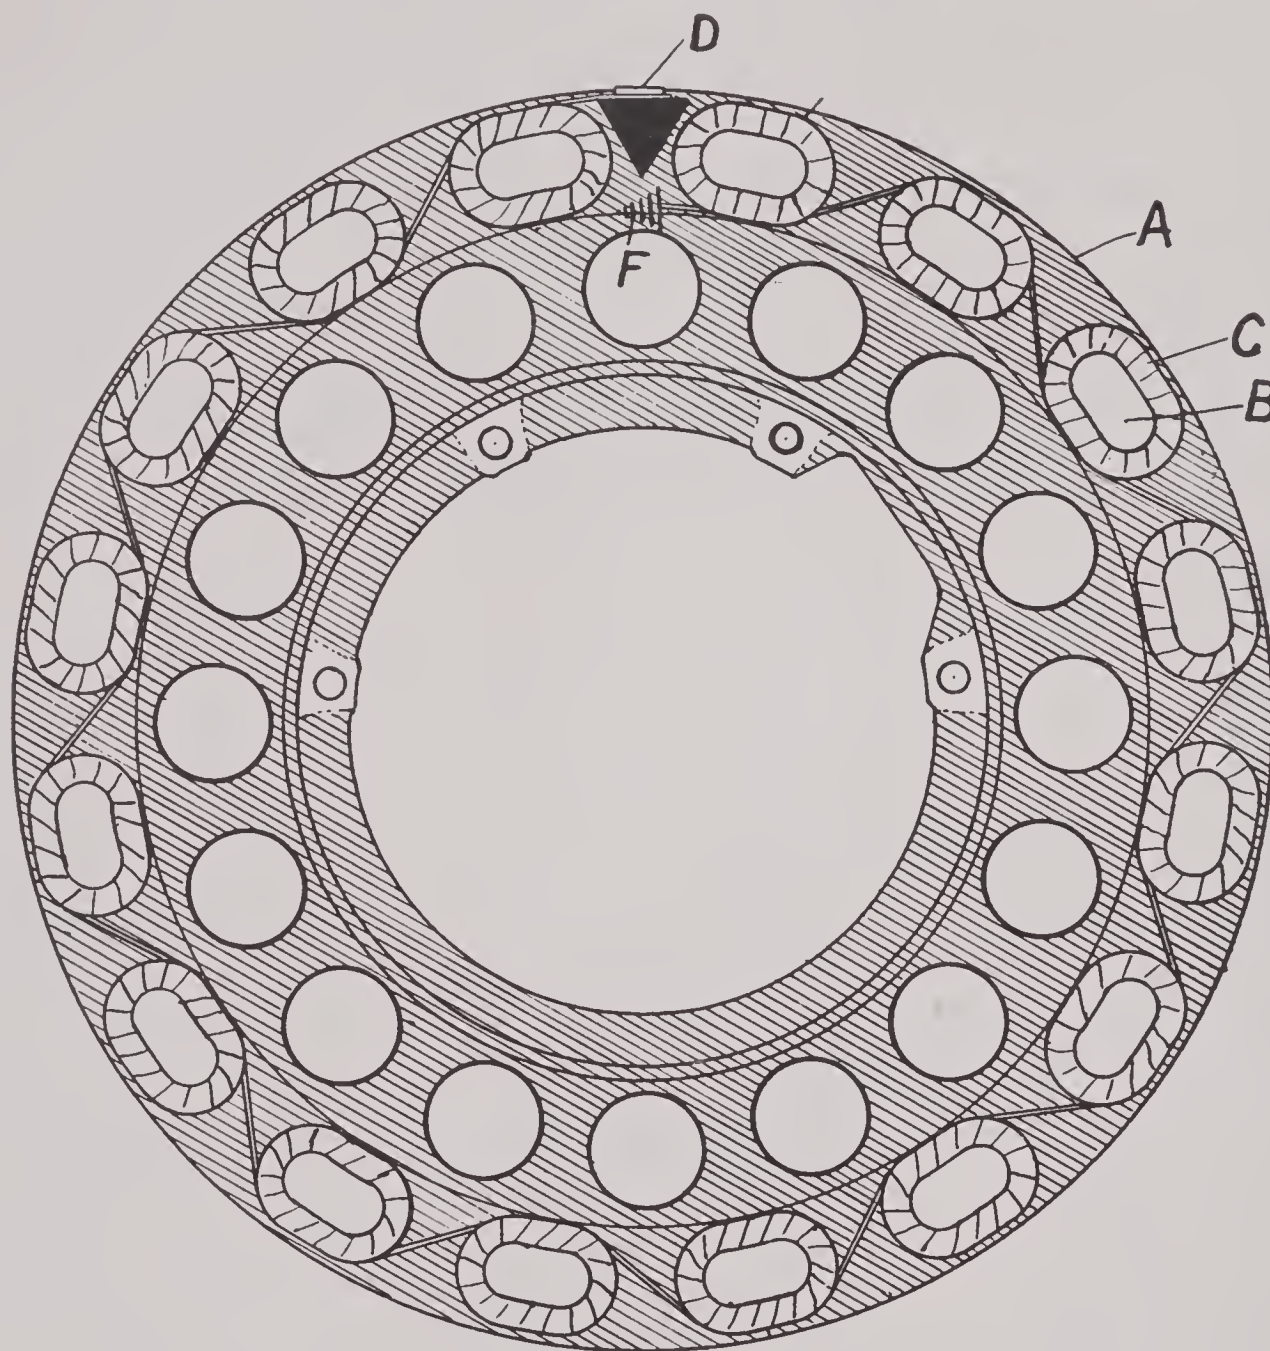

FIG. 268
Fig. 268 illustrates the arrangement of the coils, and the manner in which they are connected together. One end of the armature winding is grounded to the frame as shown at (F), the other end is carried on a small fibre block (D) to the top of the armature.